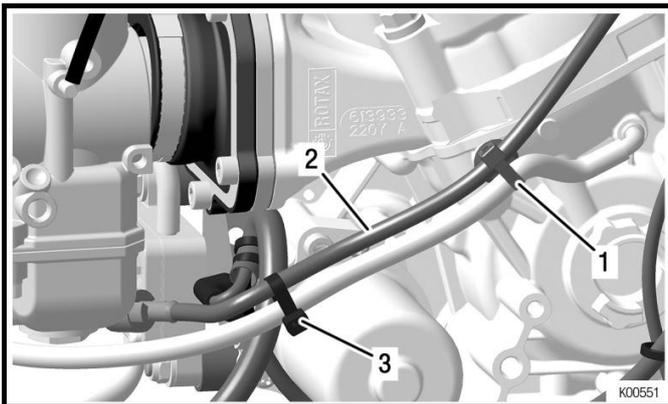

Fig. 15
- ➔ Secure both lines with a cable tie, ensuring that the black hose (pos. 2) is on top. See Fig. 15.
- ➔ Attach an additional cable tie (pos. 3) as shown in Fig. 15